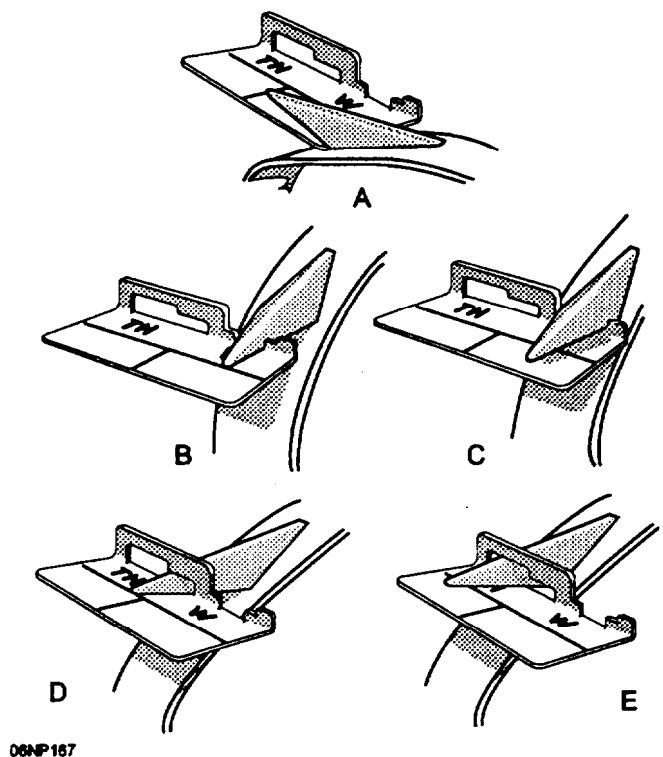

Figure 4-75.—Use of climber's gauge.
Measurements of the length, width, and thickness of the gaffs are made as follows (fig. 4-75):
**LENGTH.** Place the lined face of the gauge against the inner surface of the gaff, with the short edge of the gauge held tightly against the crotch (fig. 4-75, view A). The crotch is the point where the gaff joins the leg iron of the climber. If the point of the gaff extends to or beyond the short reference line, the length of the gaff is satisfactory.
**WIDTH.** Insert the gaff as far as possible through the small slot marked "W," with the inner surface of the gaff resting against the lined face of the gauge (fig. 4-75, view B). If the point of the gaff does not extend beyond the long reference line, the width of this section of the gaff is satisfactory. Insert the gaff as far as possible
through the large slot marked "W," with the inner surface of the gaff toward the lined face of the gauge (fig. 4-75, view C). If the point of the gaff does not extend beyond the far edge of the gauge, the width of this section of the gaff is satisfactory.
**THICKNESS.** Insert the gaff as far as possible through the small opening marked "TH," with the inner surface of the gaff resting against the lined face of the gauge (fig. 4-75, view D). If the point of the gaff does not extend beyond the reference line, the thickness of this section of the gaff is satisfactory. Insert the gaff as far as possible through the large opening marked "TH," with the inner surface of the gaff resting against the lined face of the gauge (fig. 4-75, view E). If the point of the gaff does not extend beyond the far edge of the gauge, the thickness of this section of the gaff is satisfactory.